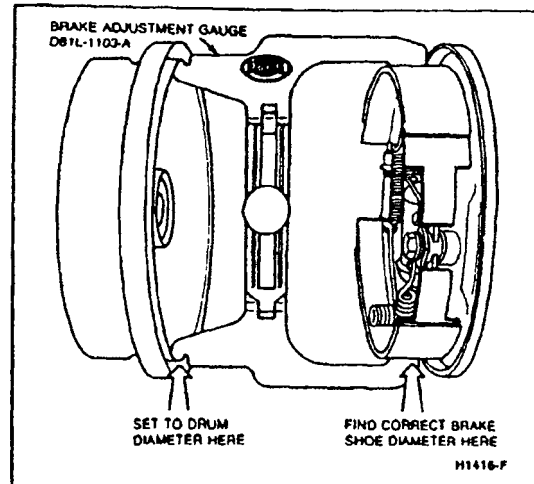

FIG. 3 Brake Shoes Adjustment
1. Determine inside diameter of the drum braking surface, using Brake Adjustment Gauge D81L-1103-A or equivalent (Fig. 3).
2. Adjust the brake shoe diameter to fit the gauge (Fig. 3). Hold the automatic adjusting lever out of engagement while rotating the adjusting screw to prevent burring the screw slots. Ensure the adjusting screw rotates freely. If necessary, lubricate the screw threads with a thin, uniform coating of Multi-Purpose Long-Life Lubricant C1AZ-19590-B or equivalent.